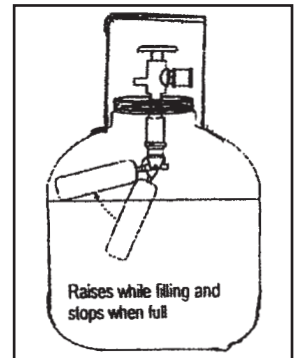

Figure 7
- Figure 7 Applicable only to Propane models.